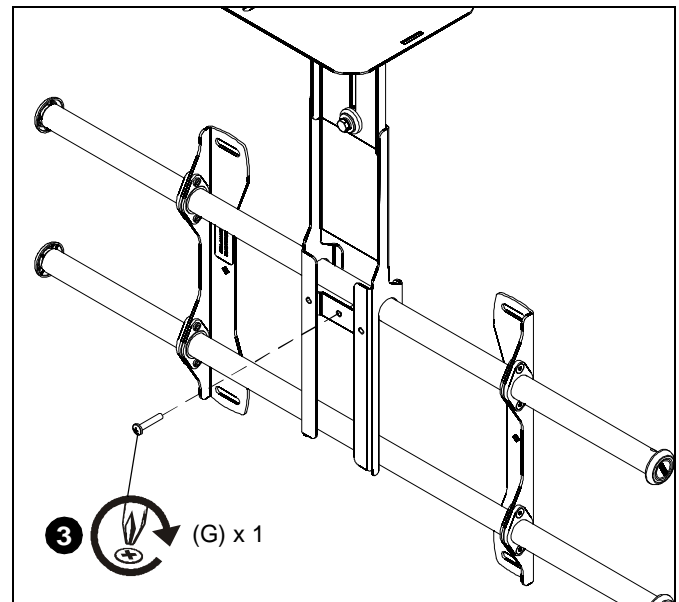

Figure 6
3. Adjust location of FVS200/FVS250 and secure to wall mount rail using one 10-24 x 1" Phillips pan head screw (G). (See Figure 6)